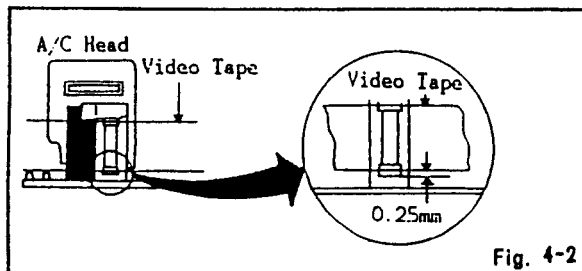

Fig. 4-2
3. Adjust the nut ④. (Refer to Fig. 2-2) until the height of the A/C head reaches the position against the tape as shown in Fig. 4-2.